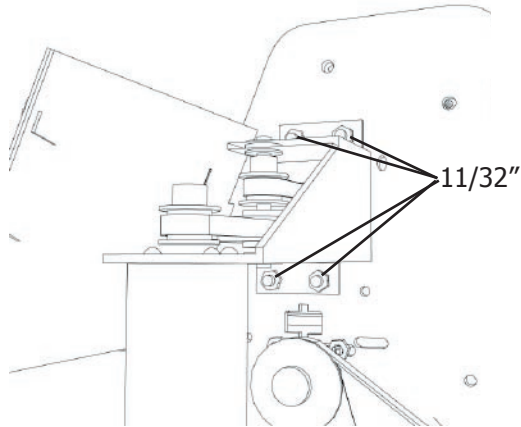

Fig. 3 - Transmission mounting nuts
- 1) Unplug the wires from the motor. Two (2) power wires (Black & Yellow). One (1) encoder plug (Black plug in at the bottom of the motor).
- 2) With the 11/32" Socket & driver, remove the four (4) nuts holding the body of the transmission to the machine. See fig. 3